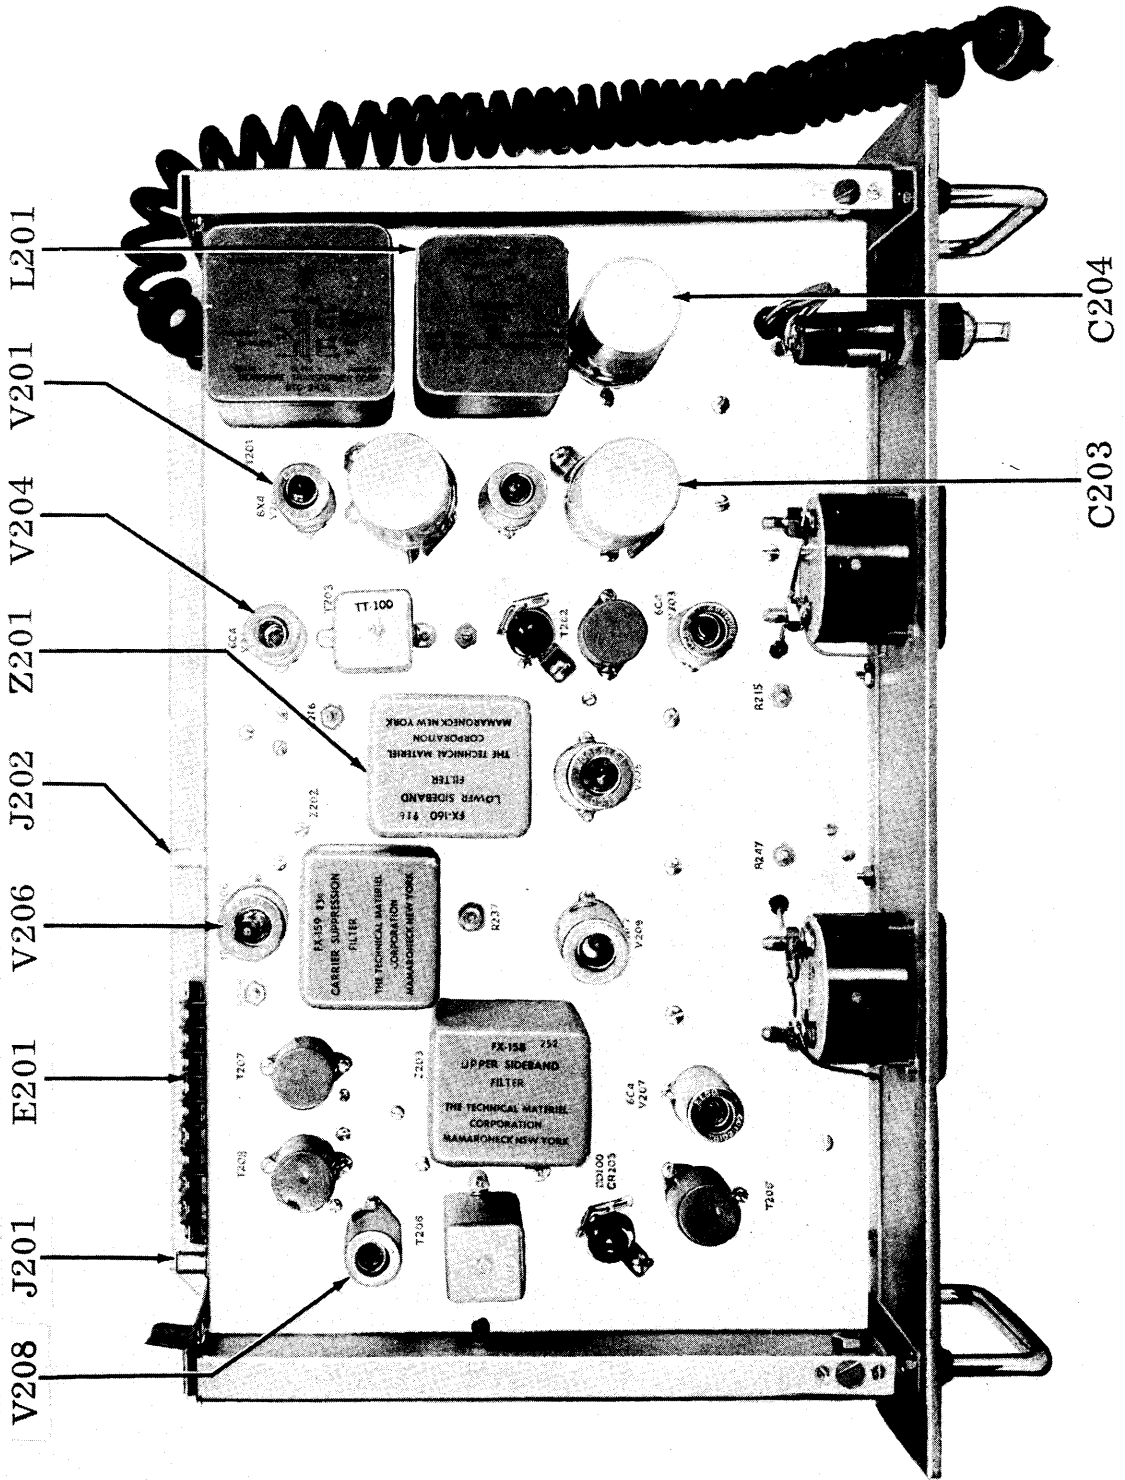

Figure 5-2. Location Diagram of Major Electronic Equipment Components, Top View
b. LOCATION DATA. Figures 5-2 and 5-3 locate the major electronic components of the CBE by reference designation.